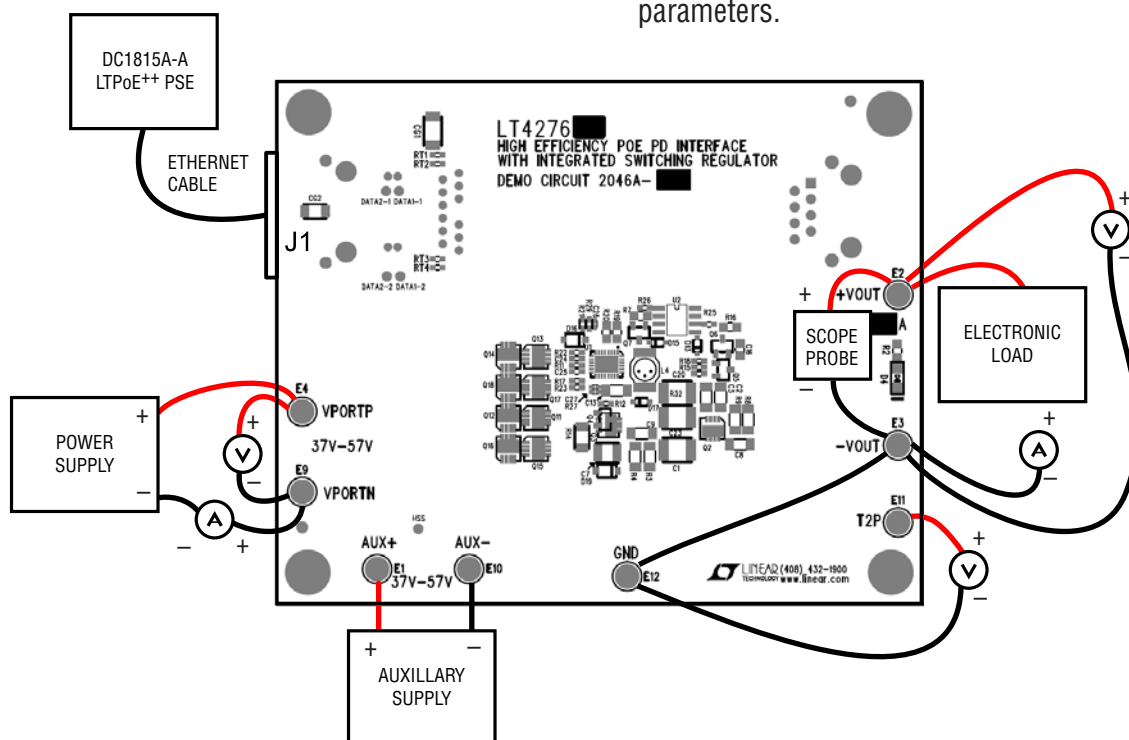

Figure 8. Proper Measurement Equipment Setup
Demonstration circuit 2046A-E is easy to set up to evaluate the performance of the LT4276 in a PoE+ application. Refer to Figure 8 for proper equipment setup and follow the procedure below:
1. Place test equipment (voltmeter, ammeter, power supplies, and electronic load) as shown in Figure 8.
- Connect a LTPoE++ capable PSE with a CAT-5 cable to the RJ45 connector, J1. See Figure 8.
- Or, connect a 37V to 57V capable power supply (Power Supply in Figure 8) across V_{PORTP} and V_{PORTN} .
- If evaluating the auxiliary power supply (Auxiliary Supply in Figure 8), connect a 37V to 57V capable power supply across AUX^{+} to AUX^{-} .